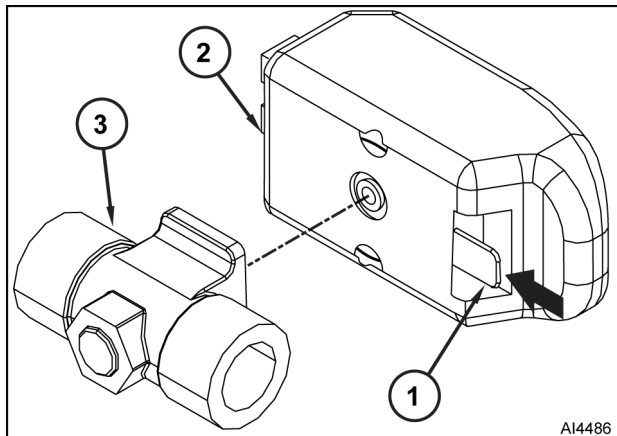

Fig. 66
- Press and hold spring catch (1, Fig. 66) then lift motorized control assembly (2, Fig. 66) off valve body (3, Fig. 66).